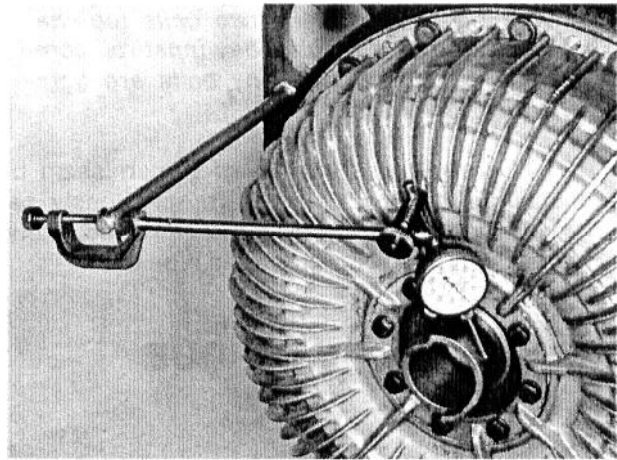

FIG. 11 — MEASURING IMPELLER HUB "RUN-OUT"
4. Check the run-out of the impeller hub with a dial indicator as shown in Fig. 11. This run-out must never be greater than 0.020 inch.